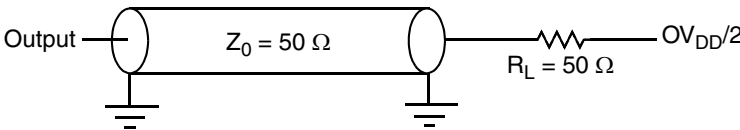
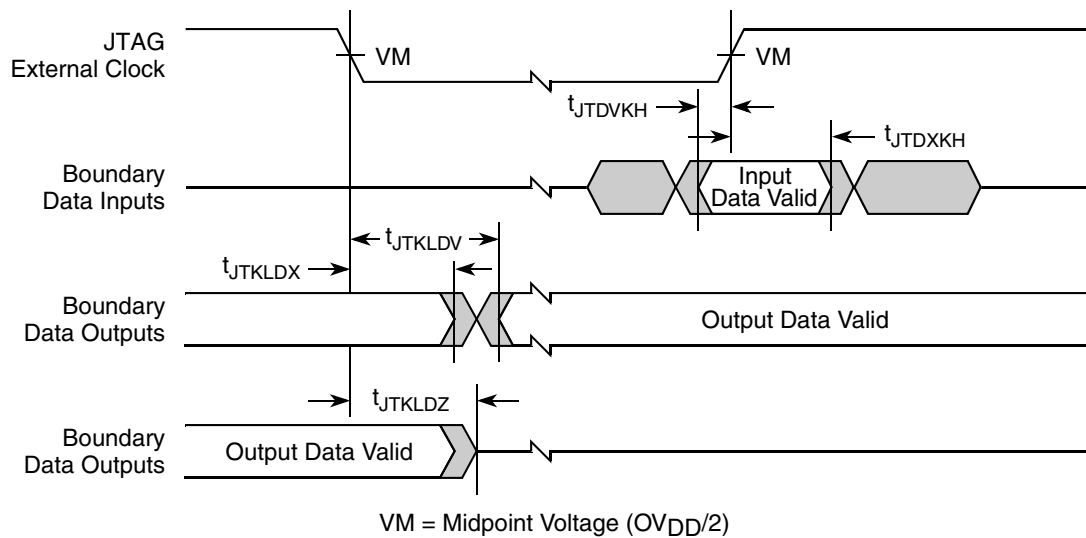

Figure 30. AC Test Load for the JTAG Interface
Figure 33. Boundary-Scan Timing Diagram
Table 45 provides the JTAG AC timing specifications as defined in Figure 30 through Figure 33.
1. All outputs are measured from the midpoint voltage of the falling/rising edge of t_{TCLK} to the midpoint of the signal in question. The output timings are measured at the pins. All output timings assume a purely resistive 50- Ω load (see Figure 30). Time-of-flight delays must be added for trace lengths, vias, and connectors in the system.
2. The symbols used for timing specifications follow the pattern of $t_{(first\ two\ letters\ of\ functional\ block)(signal)(state)(reference)(state)}$ for inputs and $t_{(first\ two\ letters\ of\ functional\ block)(reference)(state)(signal)(state)}$ for outputs. For example, t_{JTDVXH} symbolizes JTAG device timing (JT) with respect to the time data input signals (D) reaching the valid state (V) relative to the t_{JTG} clock reference (K) going to the high (H) state or setup time. Also, t_{JTDVXH} symbolizes JTAG timing (JT) with respect to the time data input signals (D) went invalid (X) relative to the t_{JTG} clock reference (K) going to the high (H) state. Note that, in general, the clock reference symbol representation is based on three letters representing the clock of a particular functional. For rise and fall times, the latter convention is used with the appropriate letter: R (rise) or F (fall).
Figure 30 provides the AC test load for TDO and the boundary-scan outputs.
Figure 33 provides the boundary-scan timing diagram.